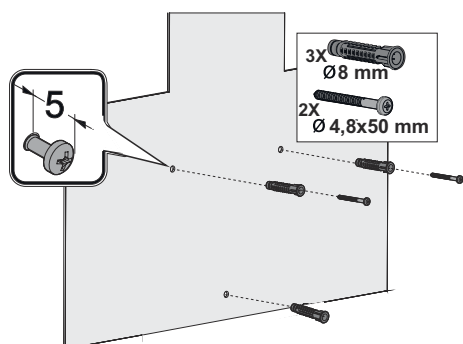

Fig. 13
3. → Drill the hanger holes with Ø8mm drill and drive the dowels (Fig. 13).
Screw 2 4.8x50 hanger screws so that there is a 5 mm gap between the screw head and the wall (Fig. 13).